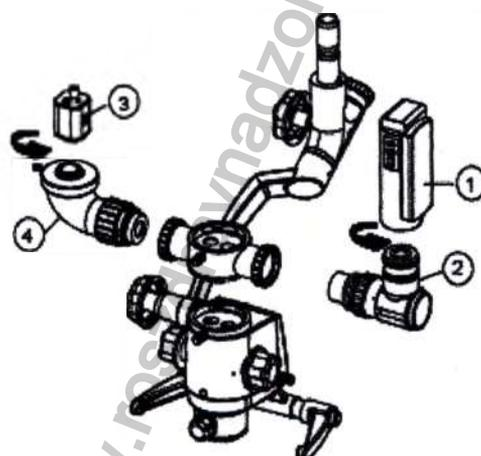

Fig. 32
13.11 Installation of CCD camera and Sony Handy cam (fig.32):